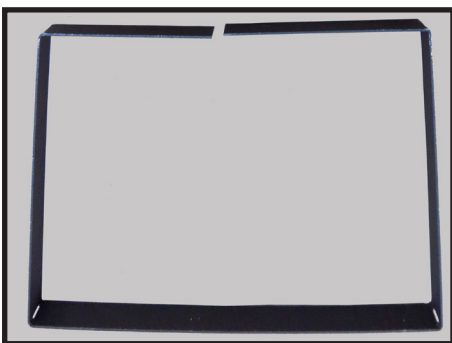
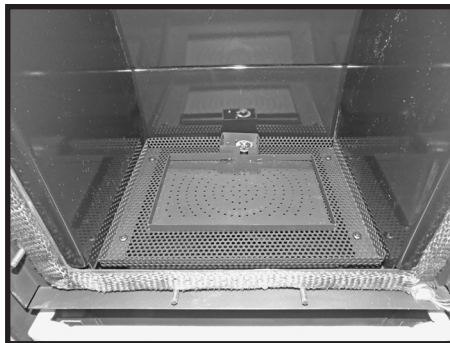
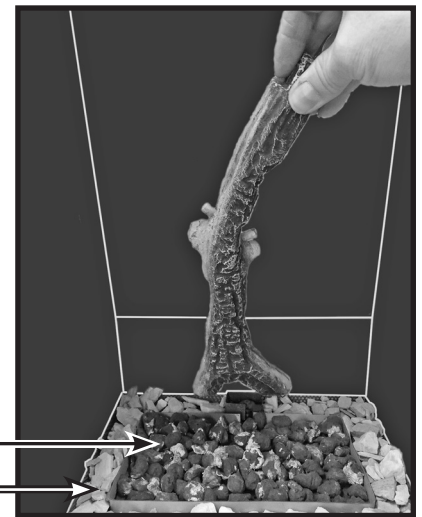

Figure 32: Media divider.
Figure 33: Media divider in place.
Figure 34: Log 1.
The Driftwood log-set with pebbles requires that any crushed glass media be removed if it is present. The pebbles are spread out around the perimeter of the burner basket after which the glowing embers are evenly spread out inside of the burner basket - (Figure 34). The stove is delivered with two media dividers - a large one for the Mirage 30 model (Figure 32), and a smaller one for the Mirage 18 model. The divider will be placed into the center of the burner basket (Figure 33) and is used to separate the pebbles and glowing embers.
1. Position rear log #1 at the back of the firebox (Figure 34).
Note: Keep gap in media divider (Figure 32) faced to the rear of the burner basket, next to the pilot assembly.